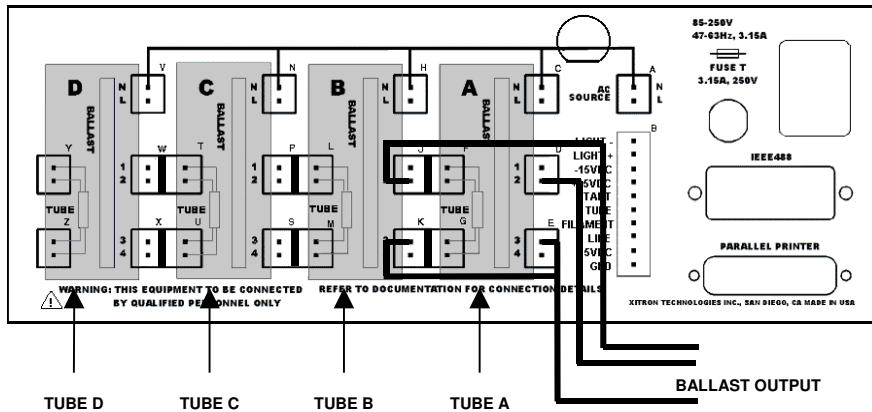

Figure 15. Example of Parallel Outputs from a Ballast
- Connect each ballast in sequence. Use section A for ballast #1, use section B for ballast #2, etc. as shown in Figure 15.